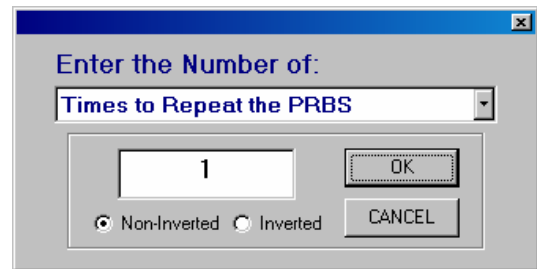

Figure 9. Creator Example Step #3
3. Click on the pull down menu (Figure 9) and verify that **Times to Repeat the PRBS** is selected, enter 1 in the text box, verify that the **Non-Inverted** option is selected and then click the **OK** button.